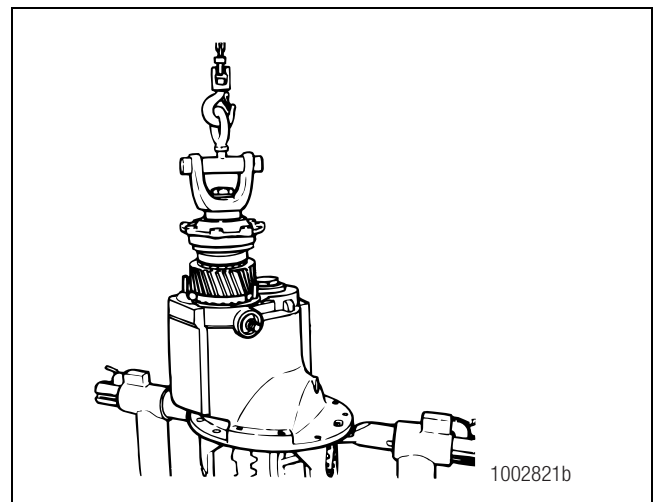

**Figure 5.79**
4. Verify that the painted alignment marks on the teeth of the helical gears are visible during the installation of the input shaft assembly. Figure 5.79.